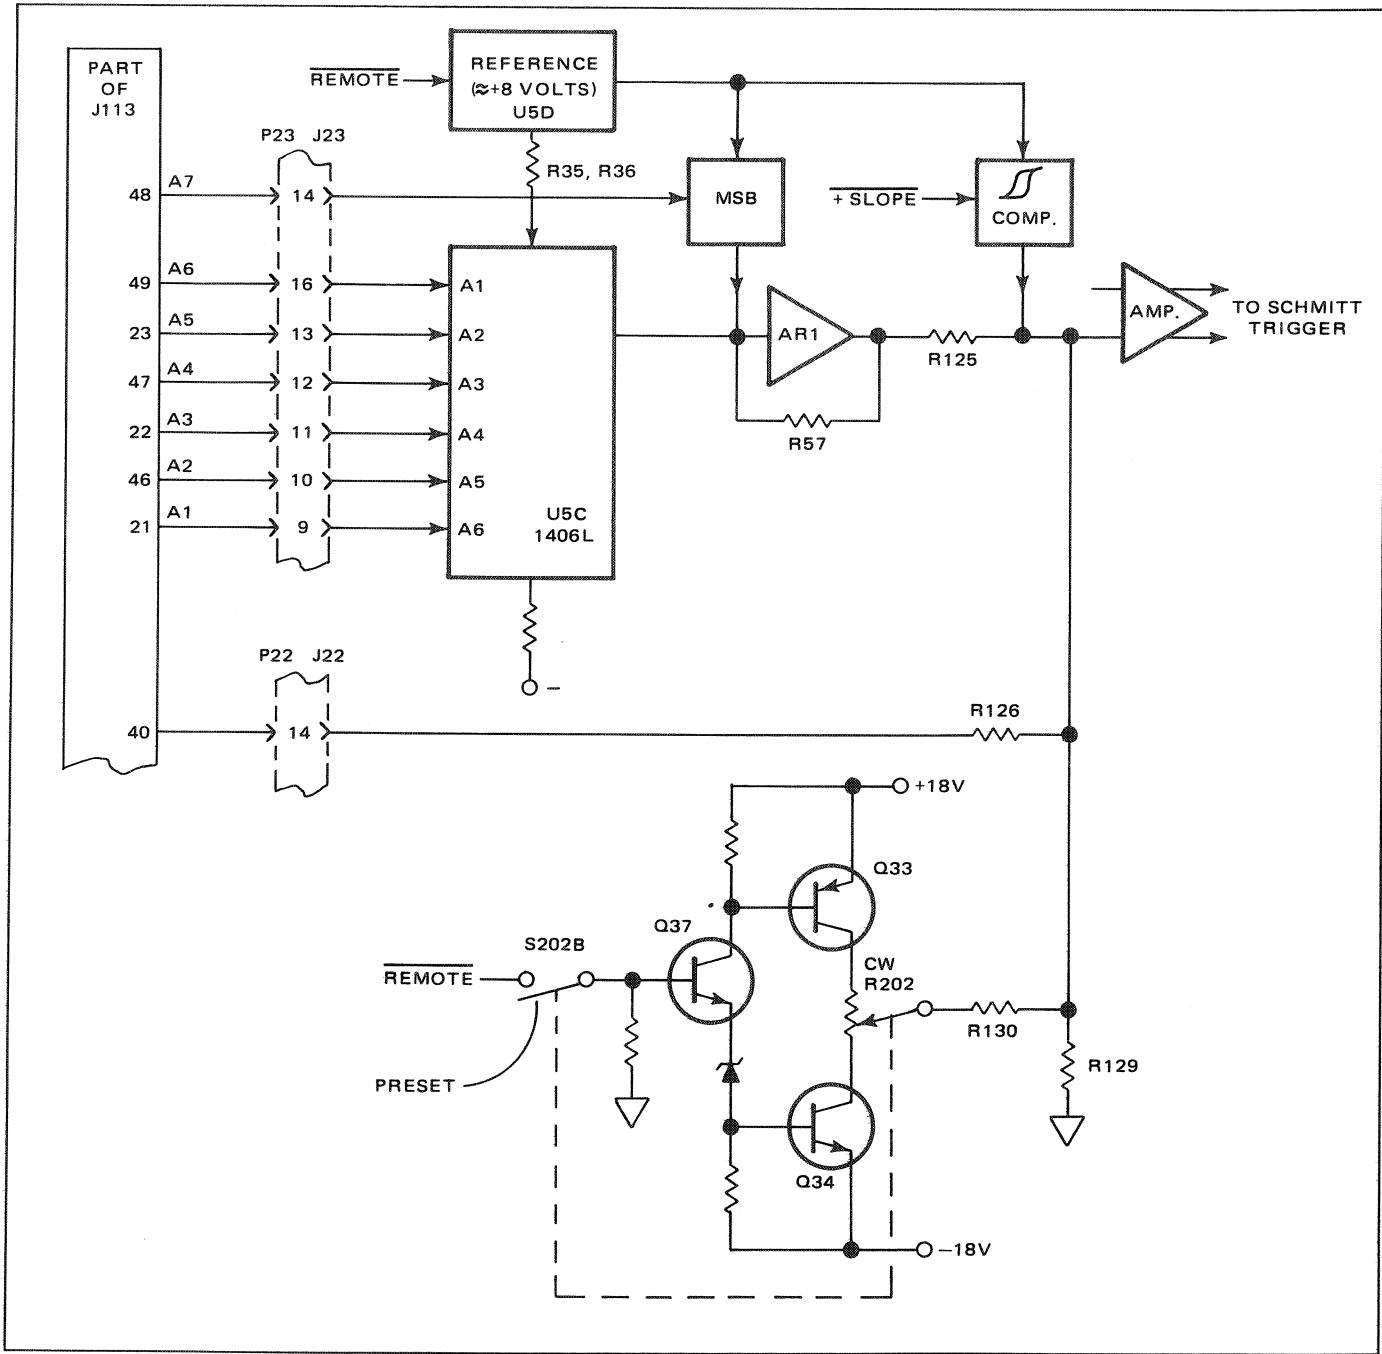

Figure 3.12 - Remote Trigger Level Control (009)
3.51 The circuitry shown in figure 3.12 illustrates the methods used to provide the three separate means of setting the input signal trigger level. The three methods are Front panel control, analog input, and digital input control. All the circuitry shown is located on the 009 Signal Conditioning Module.
3.54 The digital trigger level control is used only in remote operation. The circuit shown in simplified form in figure 3.12 provides 128 separate, digitally-selected, trigger levels through seven control lines. The circuitry consists of a 6-bit Digital-to-Analog converter (U5C) a seventh discrete-component bit (MSB), an 8-volt reference source (U5D), an operational amplifier (AR1), and a hysteresis compensation circuit.